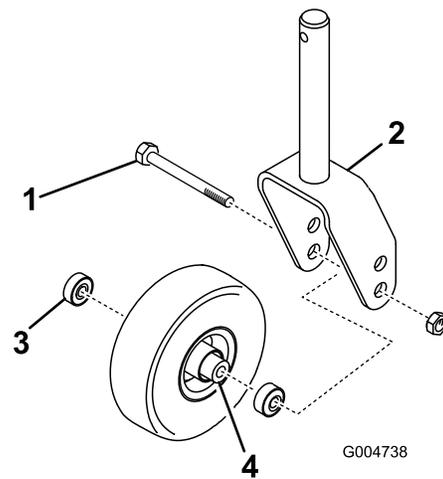
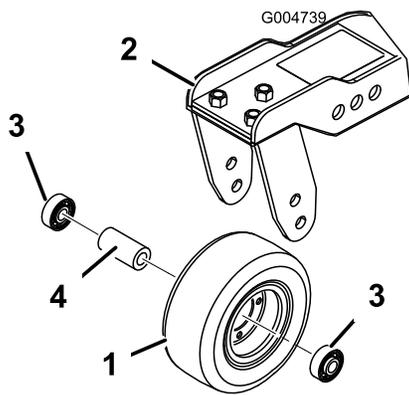

Figure 85
Figure 86
1. Remove the locknut from the bolt holding the caster-wheel assembly between the caster fork (Figure 85) or the caster-pivot arm (Figure 86).
- Remove the bearing from the wheel hub and allow the bearing spacer to fall out (Figure 85 and Figure 86).